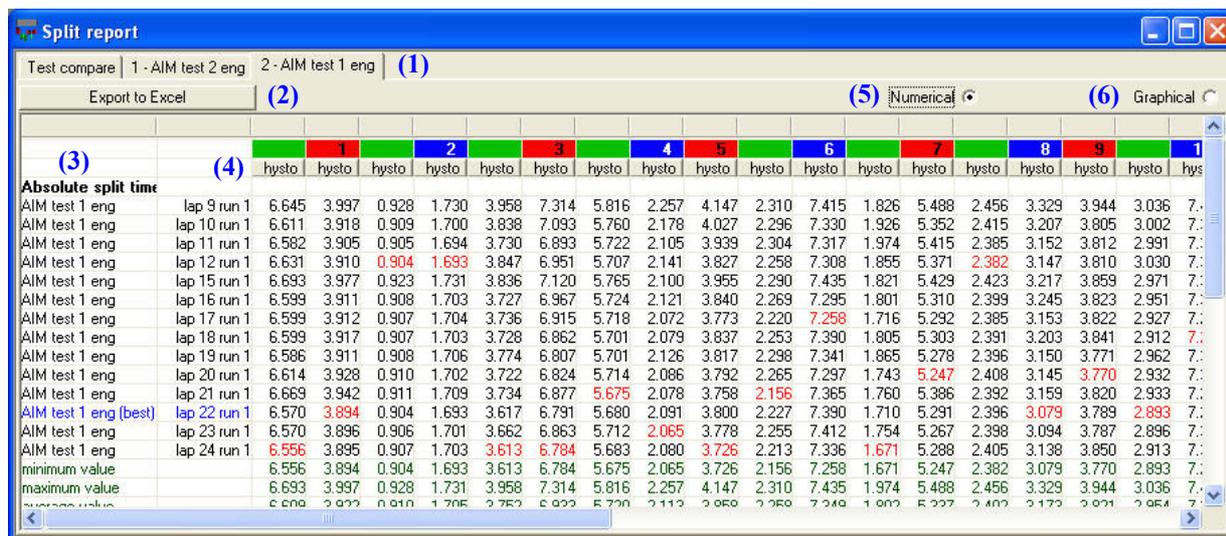
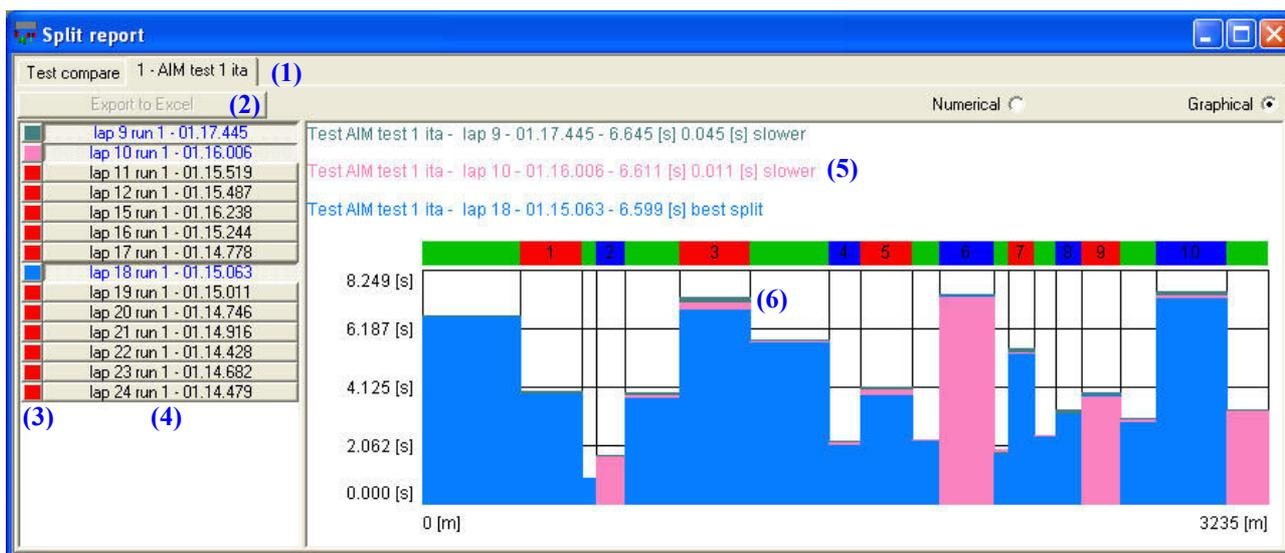

Fig. 6.3– *Split times* analysis: numerical compare
Fig. 6.5– *Split times* analysis: graphical compare
An example of a Split Times analysis graph (numerical compare) is shown in Figure 6.3 and described below.
Buttons *Numerical* (5) and *Graphical* (6) are used to select the compare type: in Figure 6.3 it is shown the *Numerical* compare, while the *Graphical* one is shown in Figure 6.5.
To switch from the numerical view to the graphical one, please click button *Graphical* (6) on the top side of Figure 6.3.
An example of a *Split Times* graphical compare is shown in Figure 6.5 and described below.